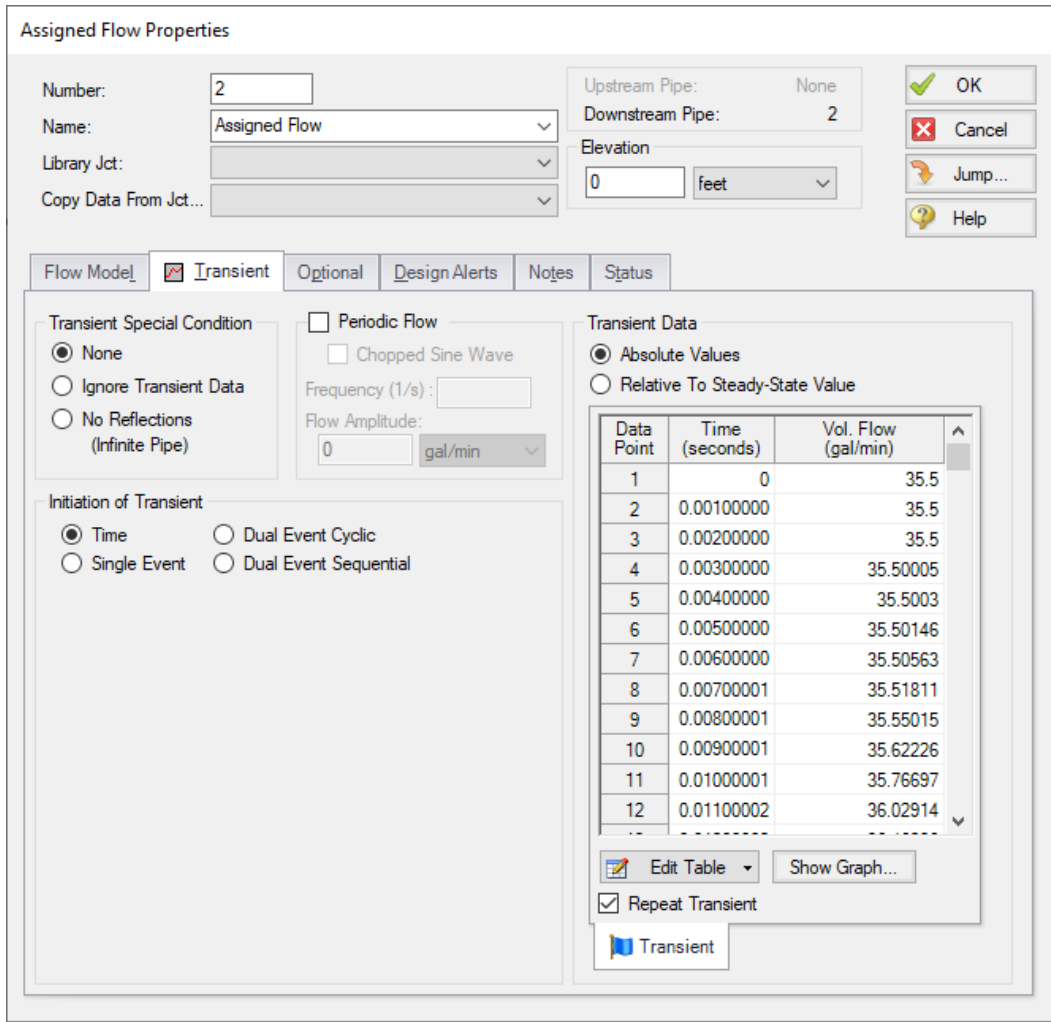

Figure 6.17 Assigned Flow Properties with the forcing function applied to J2
5. Open J2 to verify that the numerical “ring” has been applied to the transient (see Figure 6.17 for the transient input). This transient is a brief jump in flow rate at junction J2.